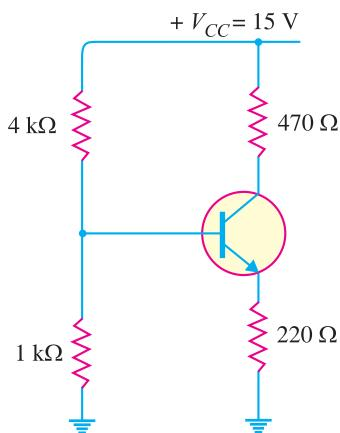

Fig. 9.50
7. In the transistor circuit shown in Fig. 9.50, find the operating point. Assume the transistor to be of silicon. [IC = 10.5mA, VCE = 7.75V]